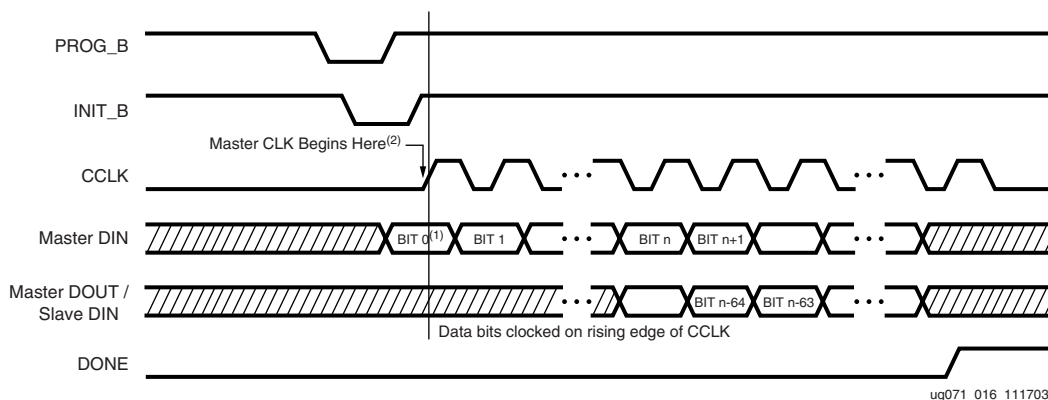

Figure 2-2: Serial Daisy Chain Configuration Clocking Sequence
Figure 2-2 shows how configuration data are clocked into Virtex-4 devices in Slave serial and Master serial modes.
Notes relevant to Figure 2-2:
1. In Figure 2-2, bit 0 represents the MSB of the first byte. For example, if the first byte is 0xAA (1010\_1010), bit 0=1, bit 1=0, bit 2=1, etc.